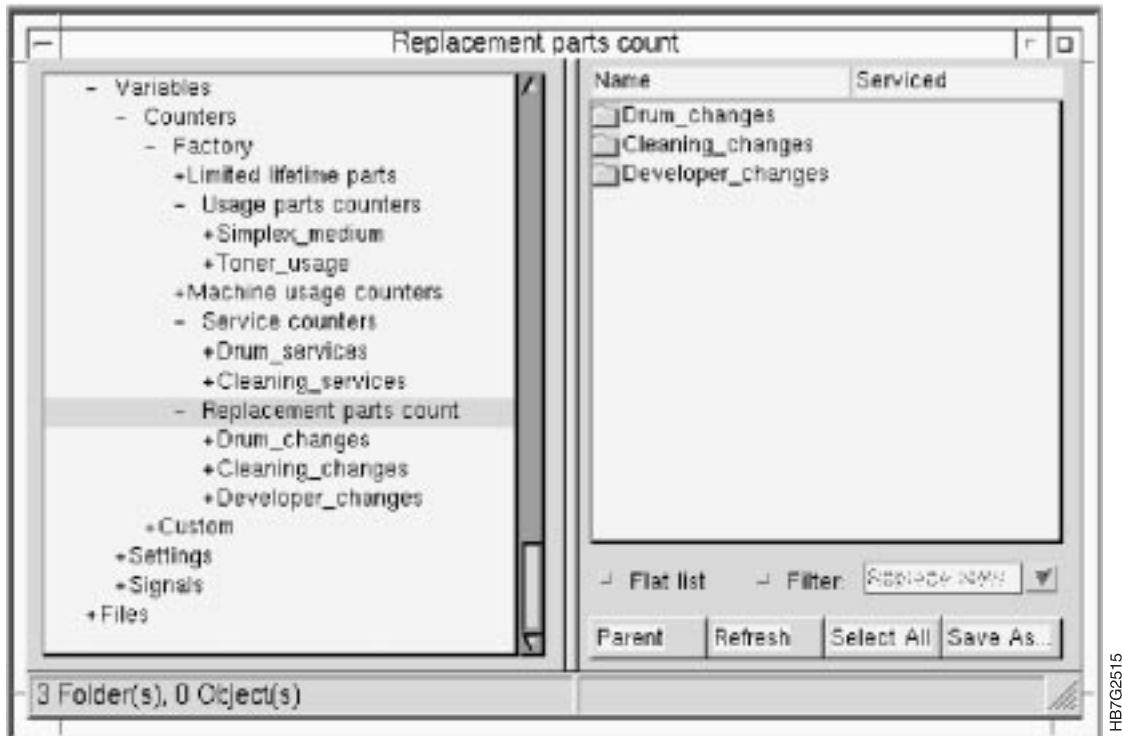

Figure 185. Replacement Parts Counters Window
- 3 Click again on **Replacement parts counters** counters and you will see the counters in the list view or right side of the **Replacement parts counters** window, as shown in Figure 185 on page 271. The counters are described in Table 60 on page 271.